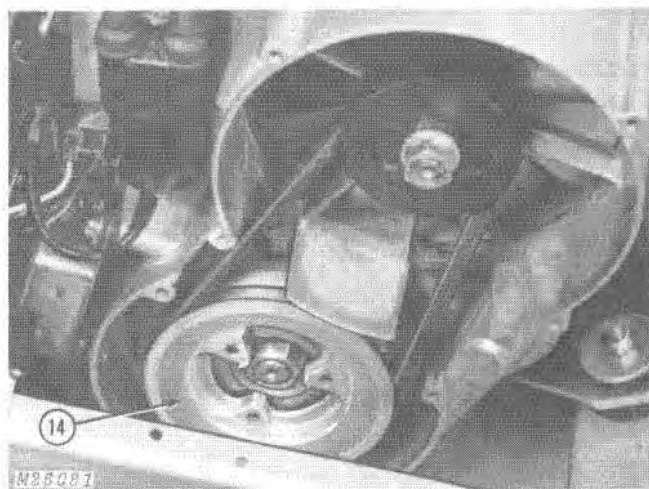

Fig. 25-Installing Fan Pulley
14. Place fan belt on fan pulley and install pulley. Line up mounting holes with flywheel, Fig. 25.